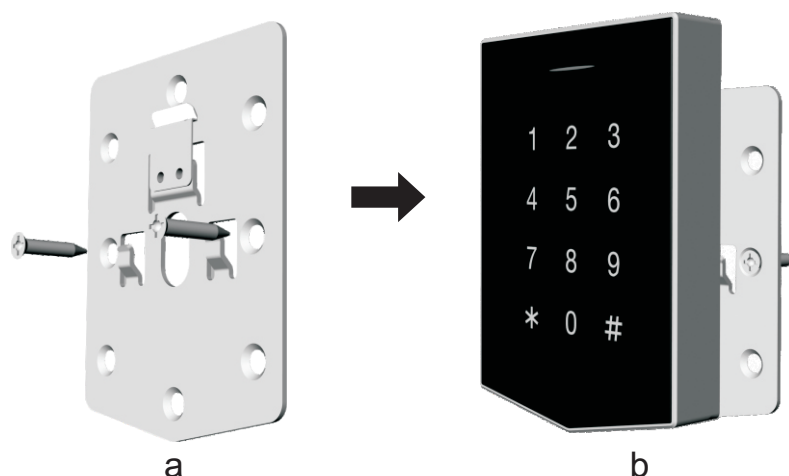

Figure 4.1 Install on the wall
- Step 2: Fix the holder with plastic expansion anchors and self-tapping screws in the accessories package as shown in Figure 4.1 (a).
- Step 4: Install the product on the holder according to Figure 4.1 (b). Then press down the product until a click sound. If the product cannot be pulled up, the installation is successful.